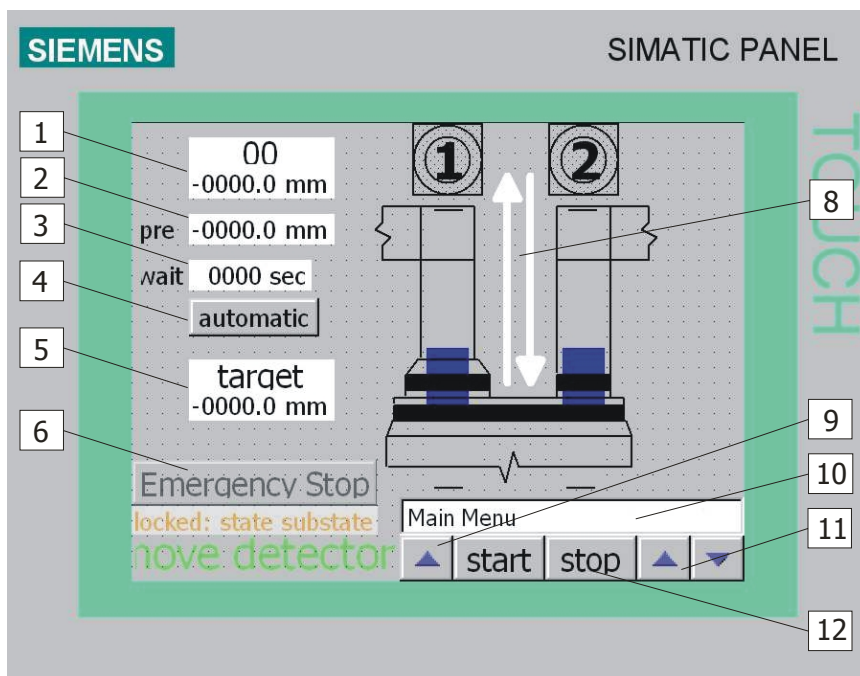

Fig 3.4 The Control Motor Screen allows you to select different motor programs to immerse detectors into liquid argon or take them out of the cryostat
The Control Motor screen is very similar to the Choose Motor screen and is shown in the figure 3.4. With the arrow up/down buttons (11) you can scroll through the main menu, enable the motor controller and select the program you want to run. Table 3.3. gives an overview of the functions and programs available in the main menu (10).
The automatic button (4) in Fig. 3.4 ensures that the sequence of motor movements defined in a motor program is carried out without interruption. If this button is not activated, the PLC stops after the first sequence. The motor program will NOT CONTINUE! In this case a different motor program has to be chosen with the preset value identical to the real value!
To simplify the usage of this program, the control motor screen features an 'automatic' button (4) (see fig 3.4). As soon as you have selected the motor program 1302, press the 'start' button and then press the 'automatic' button. This causes sequence 1-3 as shown in table 3.3 to be executed automatically. This then gives the operator the opportunity to control the movement of the string or matrix plate with one hand inside the glove box to ensure that the matrix plate is brought in safely.
In case the position of the motor is at a position which does not coincide with any precondition use the jog up / down programs. With these programs you can move (upwards/downwards) the string up to 1000 mm with a moderate velocity. These programs also can be found in the main menu (10, see fig. 3.4). Select the program and press the start button (12). Now watch carefully the live values (1). As soon as the string reaches a position where the predefined motor programs can continue the movement press the start stop button (12) and continue with regular movement. If necessary these programs can be executed several times if the desired travel range exceeds the 1000 mm.
To leave the control motor screen select the menu item ***“back to main menu”*** with the arrow up/down button (11), press the 'start' button (12) and then click the 'arrow up' button (9) (see fig. 3.4).